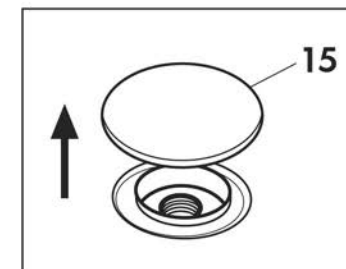

Fig. 4
Pour water, preferably demineralised water, or non-foamy detergents into the appropriate tank after lifting the cap (15) (**Fig. 4**)
Pour tap water or non-foamy detergents into the appropriate tank after lifting the cap (15) (**Fig. 4**)